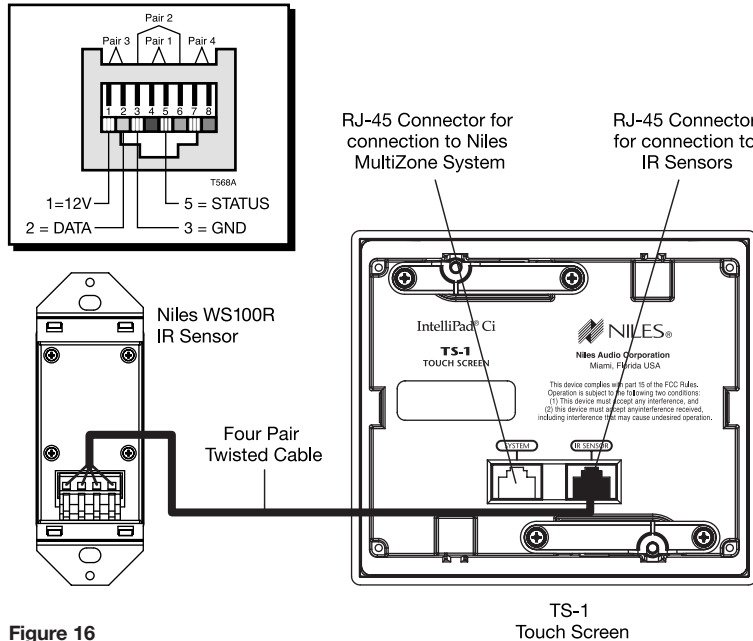
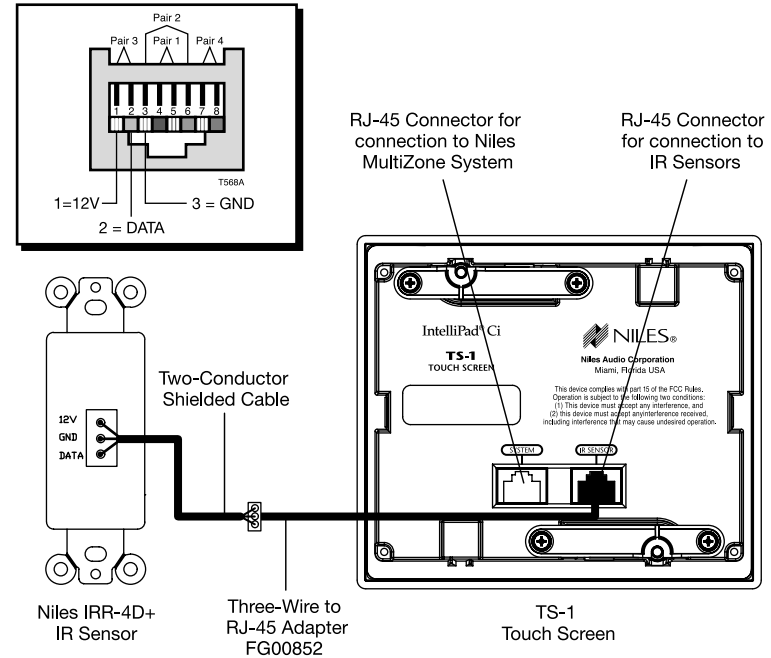

Figure 16
Figure 17
- Connect **IR SENSOR** to an (optional) external IR Sensor, as shown in Figure 16 below or Figure 17 on the next page.